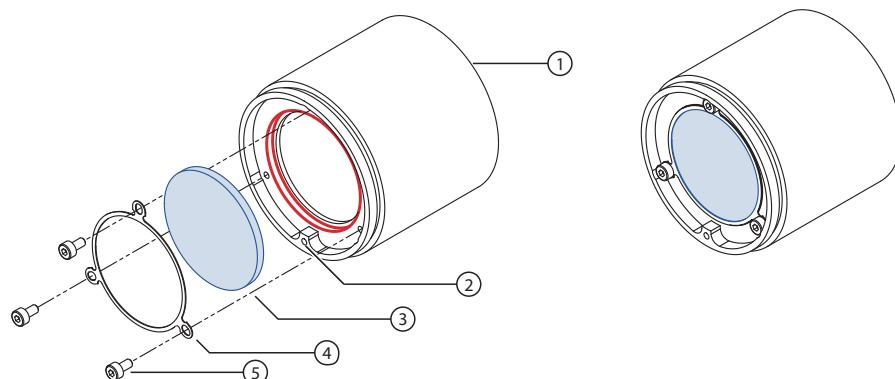

Figure 16: Installing a filter to an M42-Mount adapter
3. On the back side of the adapter, loosen the three cylinder bolts (5) of the filter fixing ring (4), using a Torx T6 tool.
5. Remove the existing filter glass (3) from the adapter.
- See Figure 16 above (blue = filter, red = filter recess).